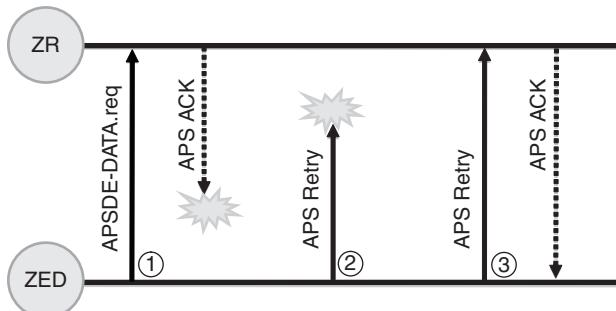

Figure 4.27: APS Retries
To illustrate, take a look at Figure 4.27. Suppose a switch (the ZED) wants to turn on a light (the ZR), and it wants to verify that the light received the command. The switch uses the optional ACK feature in the AF_DataRequest() txOptions field.
APS is smart enough not to send the packet up to the application twice. In Figure 4.27, both (1) and (3) make it through, but because the data request was already heard at (1), the copy at (3) will be dropped by the APS layer after it sends the ACK to the sender. Your application doesn't have to have any special logic to handle duplicates. ZigBee does it for you.